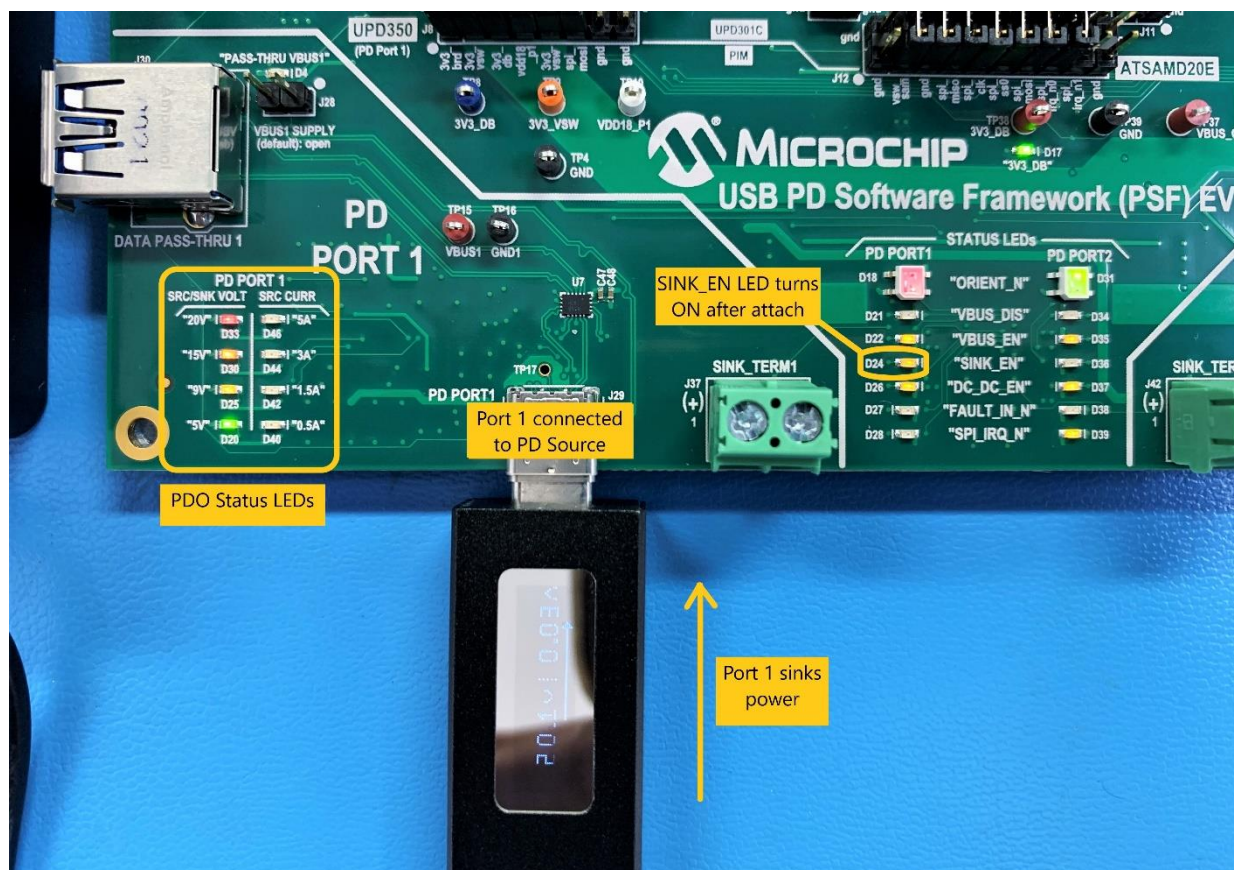

Figure 7.2 PDO Status LEDs after source attach
4. Once an explicit power contract negotiation is in place, the PSF gets enough power for charging. PDO status LEDs will turn ON indicating the negotiated voltage as shown in Figure 7.2